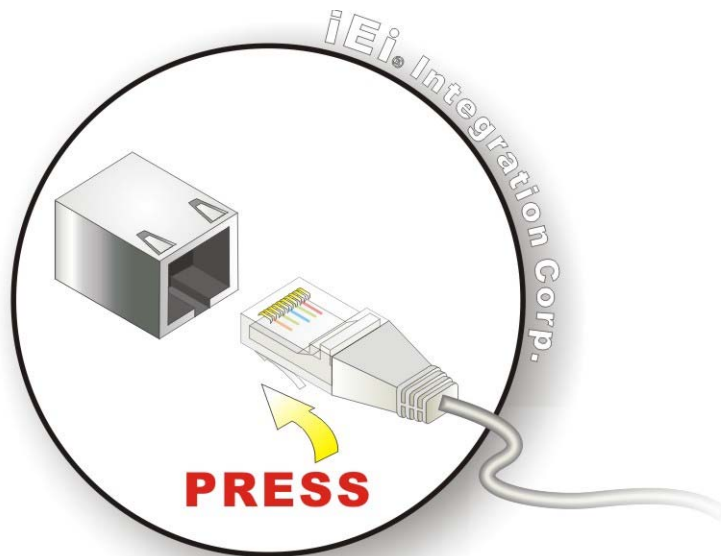

Figure 4-19: LAN Connection
Step 2: Align the connectors. Align the RJ-45 connector on the LAN cable with one of the RJ-45 connectors on the IMBA-Q770. See **Figure 4-19**.